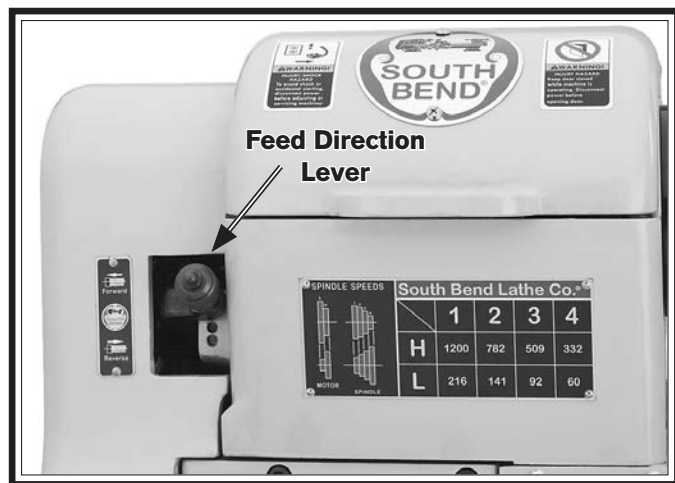

Figure 59. Location of the feed direction lever.
3. Pull the locking pin out on the feed direction lever, align it with the hole for the desired feed direction per the label to the left, then release the pin so that it is fully seated into the hole (see **Figure 59**).